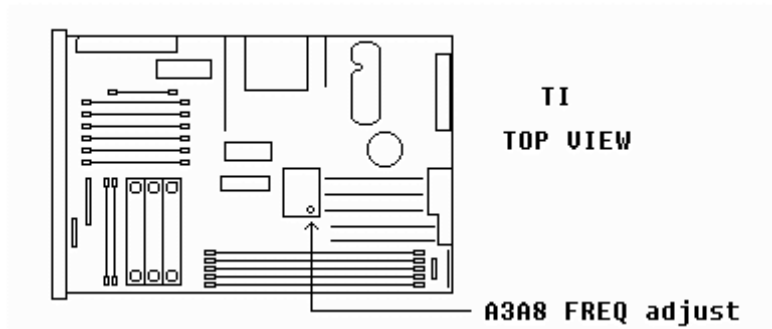

Figure 1. Frequency adjust location.
- f. Adjust **FREQ** adjust A3A8 (fig. 1) for minimum frequency difference meter indication.